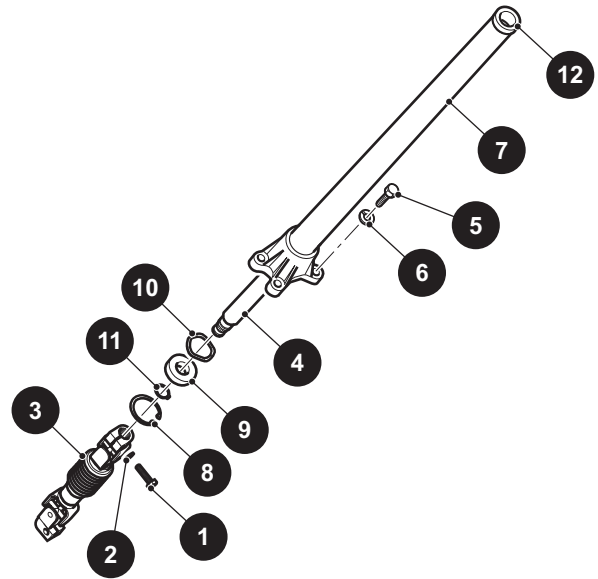

Figure 23 Steering Shaft and Column
To remove steering shaft (4) (Ref. Figure 23), remove the steering wheel. See the *Steering Wheel Replacement* on page 41.